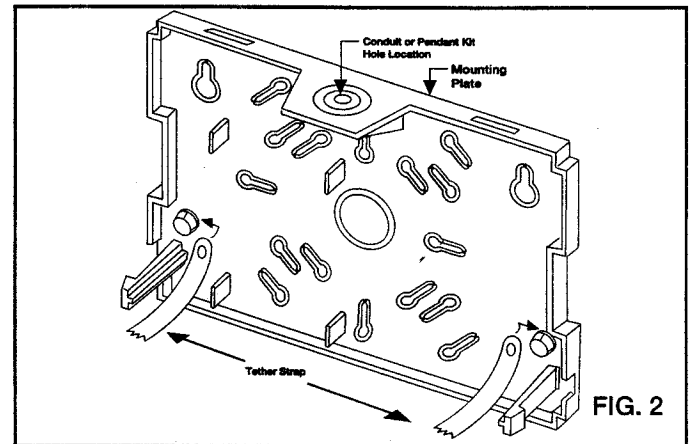

FIG. 2
Step 3. For wall mounting, knock out the center hole and the desired mounting pattern on the mounting plate. Bring supply wires out of the center hole. (Fig. 2)
Step 5. For conduit entry, drill out a 7/8" hole on the mounting plate to accept conduit fitting. For pendant kits, drill out a 9/16" hole. Finish by cutting corresponding entry slot on housing. (Fig.2)
Step 6. Snap tether strap (2) over integral posts on the mounting plate. Rest housing against wall. (Fig. 2)